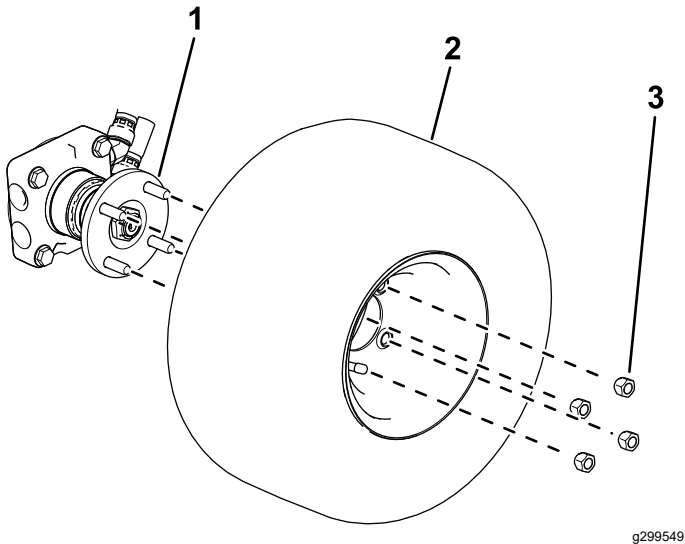

**Figure 3**
- B. Use a small washer, large washer, bolt (5/8 x 1-1/4 inch), and to secure the wheel to the axle spindle (Figure 3).
- D. Install the dust cap to the wheel (Figure 3).